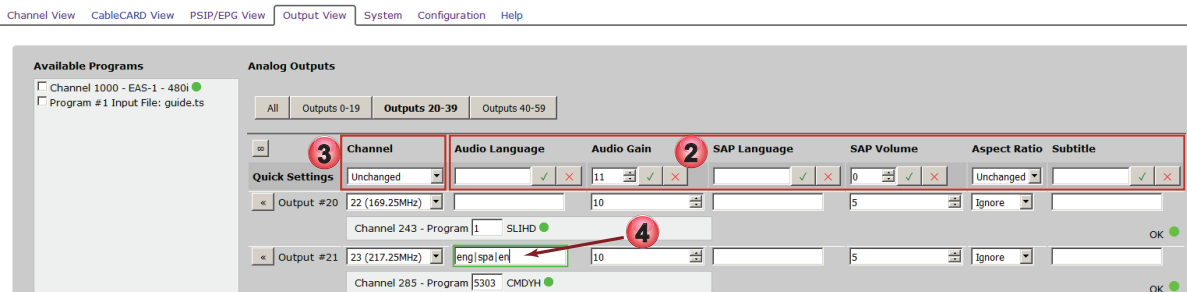

Figure 6-10: Quick Bulk Channel Settings
2. A new row of controls opens, Figure 6-10, accessing bulk configuration change features, see Table 6.4a.
4. Each individual program/analog channel may also have its settings customized by clicking inside each dialog box. The box turns green while editing and red if a wrong value is entered, Figure 6-10.
**Table 6.4a: Quick Settings Tool Bar Summary (See Figure 6-10)**